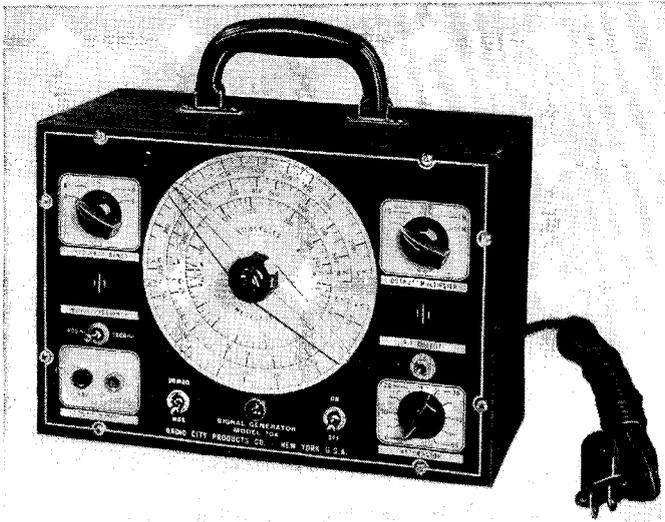

FIG. 6-5. The Radio City Products signal generator, Model 704.
**R.C.P. Model 704 signal generator.** The Model 704 signal generator produced by the Radio City Products Company (R.C.P.) is shown in Fig. 6-5. The large tuning dial is at the center of the front panel. Frequency coverage from 95 kc to 25 megacycles is performed in five bands, indicated as A, B, C, D, and E. The band-selector switch is marked FREQUENCY BANDS and is located at the upper left portion of the panel. The frequencies covered by each band are as indicated below: